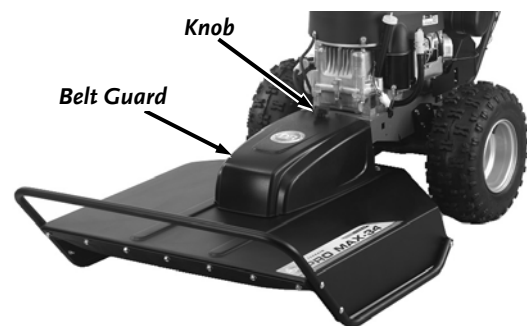

Figure 8
7. Install the Belt Guard that was shipped with the machine and secure with the Knob from the product package (**Figure 8**).
1. Unscrew the Knob that secures the Belt Guard to the Deck and remove the Guard (**Figure 8**).